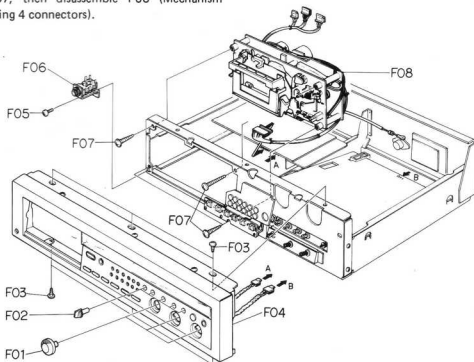

Fig. 3.2
Refer to Fig. 3.2.
- (1) Refer to Fig. 3.2. Remove Front Panel Ass'y referring to item 3.4.
- (2) Remove the flat cable, connectors and wires connected by wrapping from F04 (Main P.C.B. Ass'y).
- (3) Remove F01, F02, F03 and the Record Linkage Wire from the Wire Holder assembled with Record Switch, then disassemble F04 (Main P.C.B. Ass'y).
- (2) Remove the connectors and wires connected by wrapping from F06 (Logic P.C.B. Ass'y).
- (3) Remove F05, then disassemble F06 (Logic P.C.B. Ass'y).
- (2) Remove F10, then disassemble F11 (Volume P.C.B. Ass'y).
- (2) Remove F12, then disassemble F13 (Control Button Ass'y).
- (2) Remove F14, then disassemble F15 (Record Cal. P.C.B. Ass'y).
- (2) Remove F01 and F02, then disassemble F03 (Meter Ass'y).
- (1) Refer to Fig. 3.2. Remove Mechanism Ass'y referring to item 3.5.
- (2) Push the Eject Button to open the Cassette Case Ass'y.
- (3) Remove F01, then disassemble the piston of the Air Damper Ass'y.
- (4) Remove F02 and F03, then disassemble F04 (Cassette Case Ass'y).
- (2) Push the Eject Button to open the Cassette Case Ass'y..
- (3) Remove F05, then disassemble F06 (Cover Plate).
- (2) Remove F07, then disassemble F08 (Tape Counter Ass'y).
- (2) Remove F01 and F02, then disassemble F03 (Flywheel Holder Ass'y) and F06 (Capstan Belt).
- (3) Remove F04, then disassemble F05 (Capstan Motor Ass'y).
- (4) Remove F07 (Supply Flywheel Ass'y), then disassemble F08 (Take-up Flywheel Ass'y).
- (5) After removing both Flywheel Assemblies, disassemble F09 (Thrust Washer 3.1 mm), F10 (Thrust Washer 2.6 mm), F11 (Flange Thrust Caps) and F12 (Flywheel Thrust Springs).
- (2) Remove Flywheel Holder Ass'y and both Flywheel Assemblies referring to above item 3.20.
- (3) Remove F01 and F02, then disassemble F03 (Sub Mechanism Chassis Ass'y).